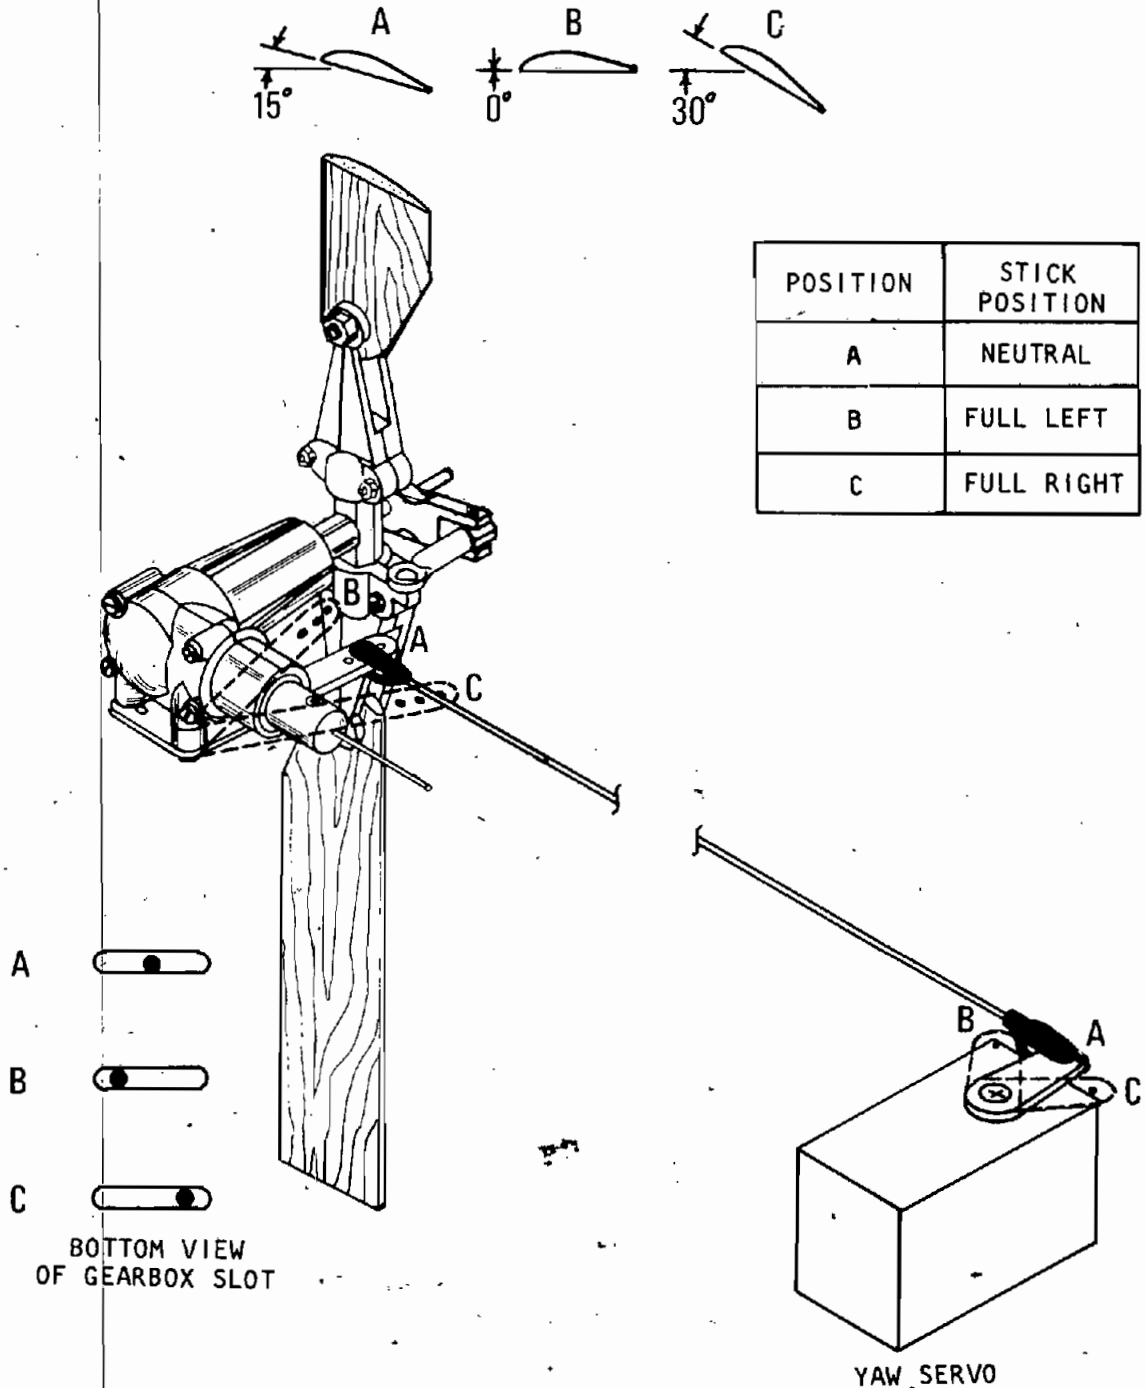

Figure 15
Tail Rotor Control Set-Up - see Figure 15
- A. Set the rudder servo arm at neutral position and, at this setting, the control rod from the rudder servo to the tail control lever should be adjusted in LENGTH until the PIN in the gearbox SLOT is CENTERED (see position 'A' in Figure 15).
- B. NOW, DON'T TOUCH (A) again and do the following: adjust the LENGTH of the rudder SERVO ARM (the distance from the pivot to the point where the tail wire is fixed) so that, with full left to right rudder stick movement (including the additional movement added by the trim lever also), the pin moves NEARLY (say 80%) the full amount of the movement that the slot will permit (see positions 'B' and 'C' in Figure 15).
NOW, DON'T TOUCH the adjustments made in (A) or (B) again. Set the collars which position the pitch control plate on the pitch control wire so that, with FULL LEFT stick on the transmitter, the flat surface of the tail blades are approximately parallel to the line of flight (see position 'B' in Figure 15).
- D. NOW, when the rudder stick is NEUTRALIZED, the blades will look like position 'A' in Figure 15 and, when the rudder stick is full RIGHT, the blades will look like position 'C' in Figure 15.